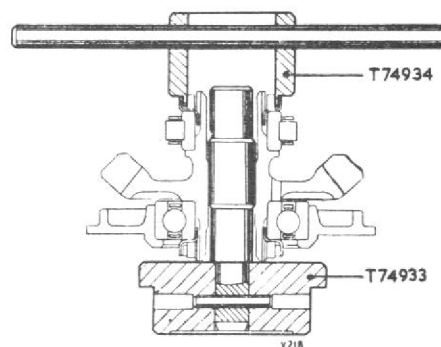

Fig. 8. Tightening the nut on the lower vertical shaft
- (11) Mount the press block with the assembly in a vice.
- (12) Assemble a new cup-locking washer (Part No. N2866) and the ring nut to the gear shaft, using serrated spanner T74934, tighten the nut (fig. 8).